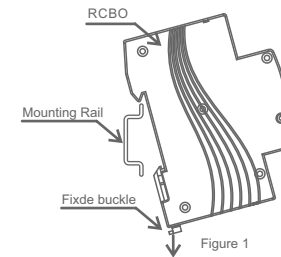
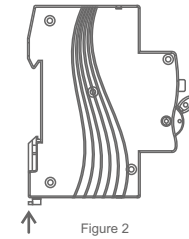

Figure 1
Figure 2
a. Installation: Pull the fixed buckle of the RCBO down in the direction of arrow 1 according to figure 1, and then put the RCBO in align the rail with the upper end of the installation guide rail (see figure 1), and ensure that the bottom of the RCBO is fully aligned with the installation guide rail. After that (see figure 2), push the fixed buckle of the RCBO into the lower end of the installation guide rail according to the arrow direction in figure 2 to release it.